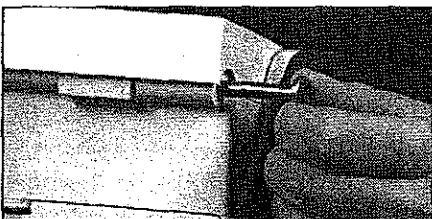

Figure 57
5. After removing both snap rings, pull out both hinge pins as illustrated in Figure 57.
8. Insert the two hinge pins (see Figure 57), and replace the snap rings.